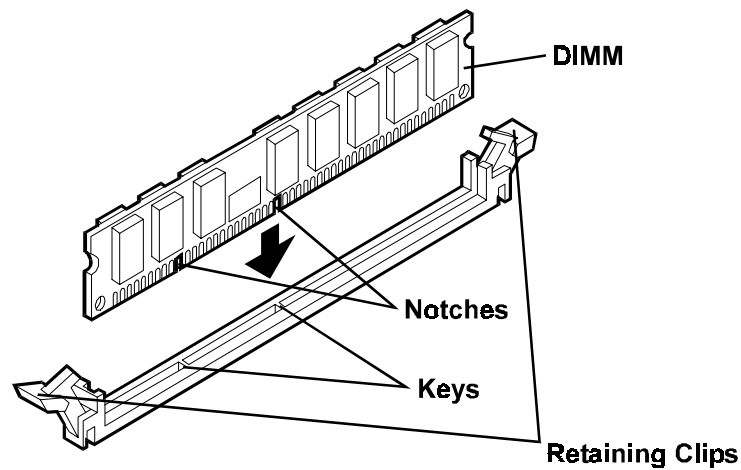

Figure 5-3. Inserting DIMM Into Connector
2. Install the DIMMs (see Figure 5-3):